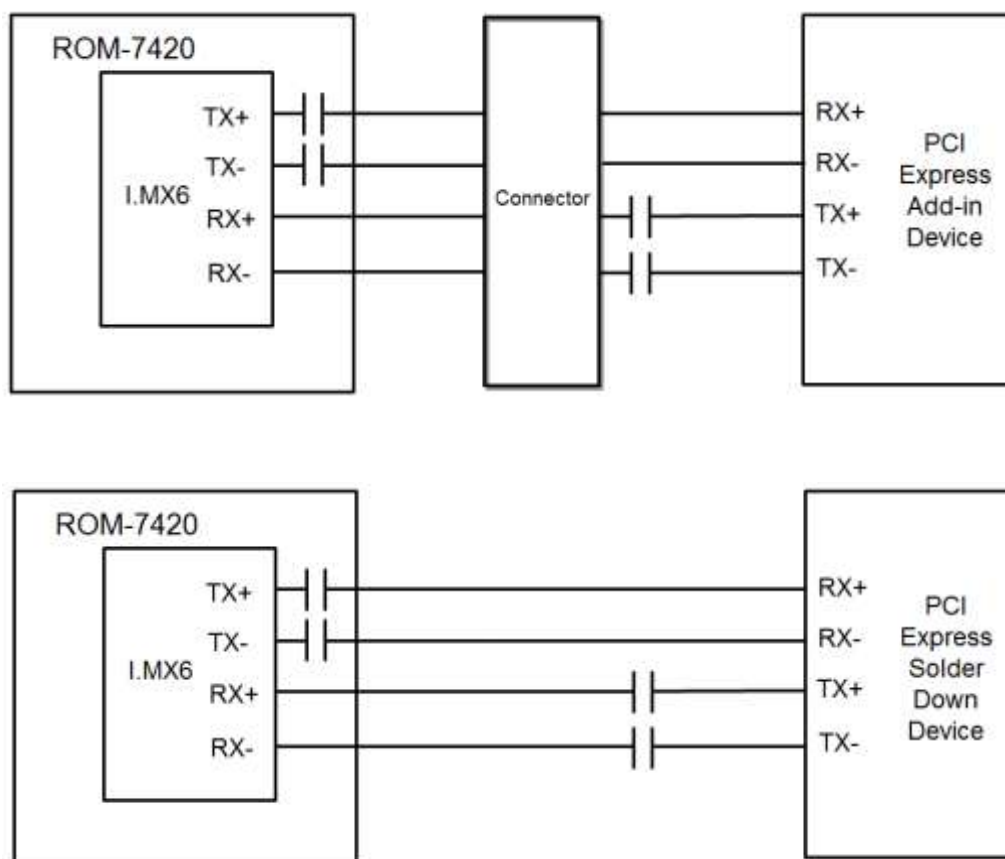
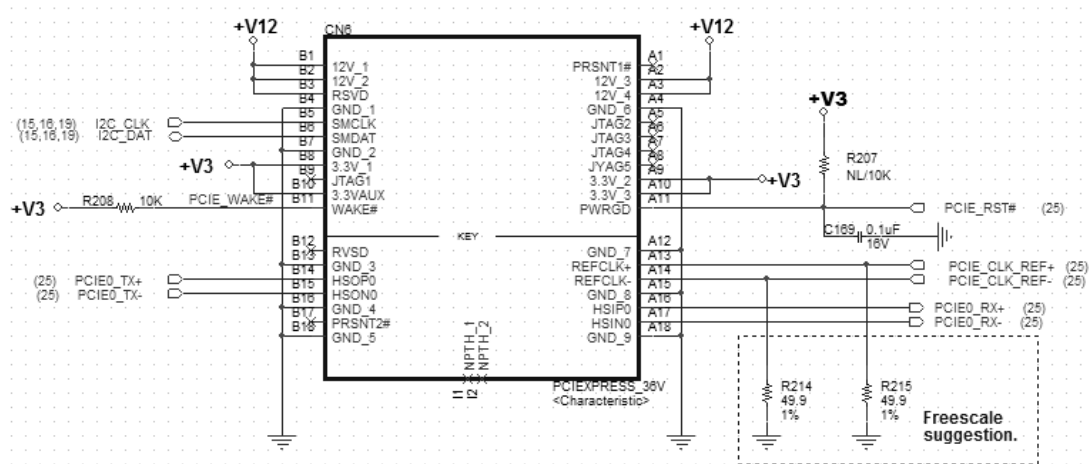

Figure 3-27 PCI Express Interconnect Example
Figure 3-28 PCI Express Connector Schematic Reference
Each PCI Express lane is AC coupled between its corresponding transmitter (TX) and receiver (RX). Figure 3-27 and Figure 3-28 shows the connection for ROM-7420 signals and PCI Express connector. The AC coupling capacitors of TX+/- is present on ROM-7420 Module. The AC coupling capacitors of RX+/- should be placed on the carrier board and closely to the transmitter pins of the PCI Express devices.